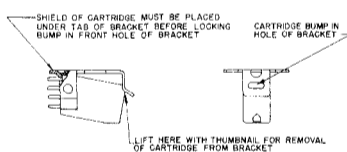

FIGURE 3
2. Remove cartridge from snap-in bracket (see Figure 3).
5. Insert cartridge into snap-in bracket (see Figure 3).